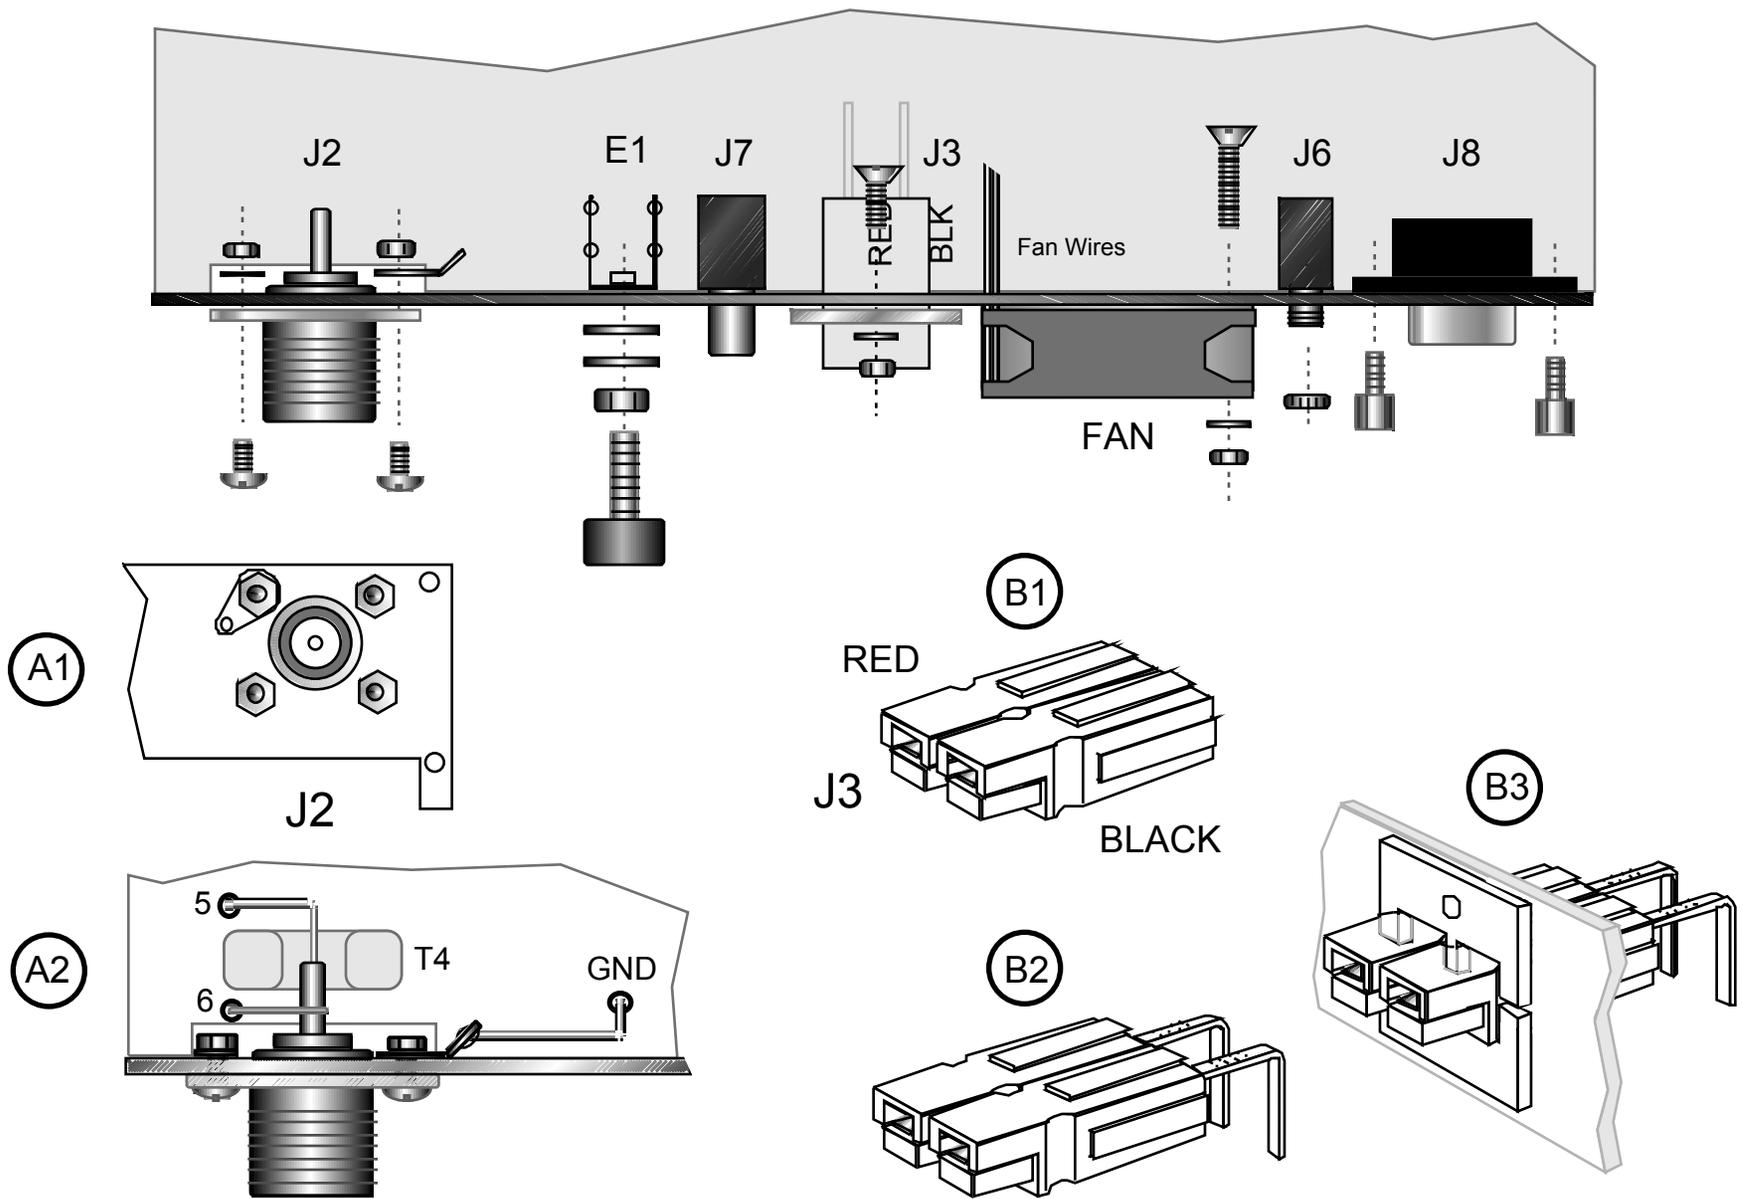

Figure 22
Figure 22 (page 29) shows the connectors and other hardware that will be attached to the rear panel in the following steps. The antenna jack (J2), DC power jack (J3), and fan will be secured to the panel first, then the rear panel assembly will be attached to the KPA100 PC board.
Attach the antenna jack, J2 (SO239) to the rear panel as shown in Figure 22. Use four 4-40 x 1/4" (6.4 mm) pan head screws, one solder lug, **three** #4 split lock washers, and four 4-40 nuts. As shown in Detail A1, the solder lug takes the place of one lock washer. The lug must be installed on the screw nearest the top edge of the rear panel. **Do not overtighten the hardware.**
- Locate two DC input connector housings, one red and one black. Hold the two connectors in the orientation shown in Detail B1 of Figure 22. Look closely at the sides of the connectors. Each has a small tongue on the right side, and a groove on the left.
- Use two E-shaped brackets to hold the housings in place, as shown in Detail B3 (one from above, one from below). Secure the brackets to the rear panel using two 4-40 x 1/4" (6.4 mm) flat head screws, two #4 split lock washers, and two 4-40 nuts. This hardware is shown in Figure 22 (at top).
- Solder one end of the **red** wire to the center pin of the antenna connector (J2) as shown in Figure 22, Detail A2. Remove any excess solder from the outside of the pin using desoldering braid.
- Solder J2's wires to the points indicated in Detail A2 of Figure 22. The red wire goes to T4 pin 5, black wire to the pad labeled "GND" near E1, and bare wire jumper to T4 pin 6.